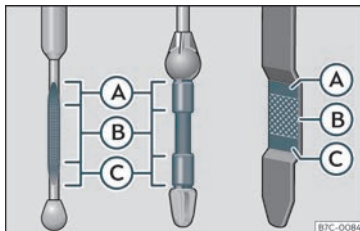

Fig. 257 Engine oil dipstick.
- Then pull it out once more and check the oil level >>> **Fig. 257**. Top up with engine oil if necessary.
- When the oil level reaches at least zone >>> **Fig. 257 (B)**, unscrew the engine oil filler cap carefully >>> **ⓘ**.
If the oil level is above area >>> **Fig. 257 (A)**, do not start the engine. This could result in damage to the engine and catalytic converter. Contact a specialised workshop.
The oil level must never be above zone >>> **Fig. 257 (A)**. Otherwise oil can be drawn in through the crankcase breather and leak into the atmosphere via the exhaust system.